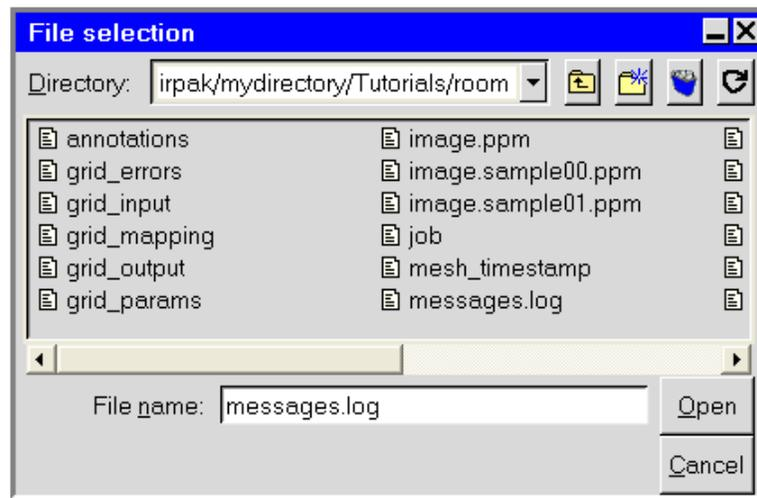
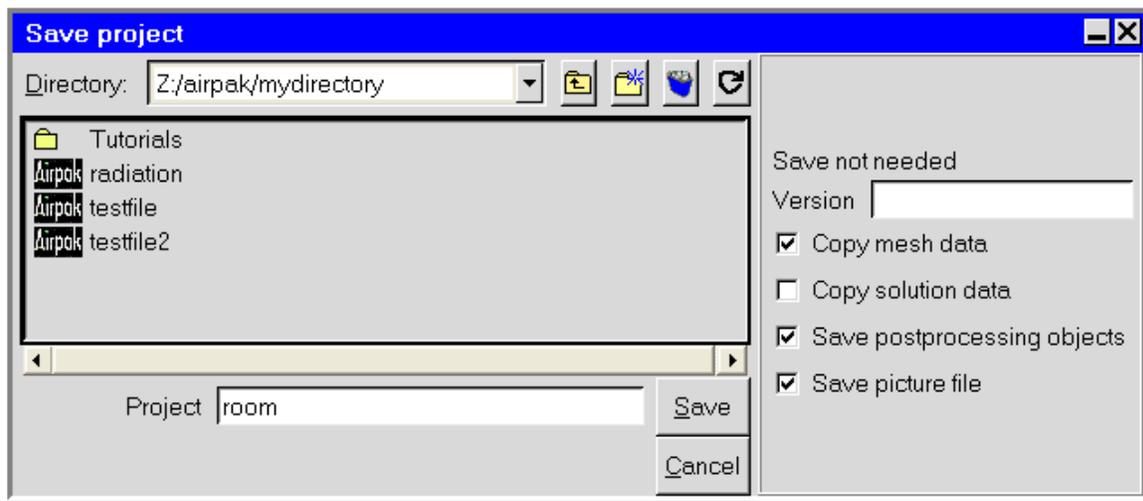
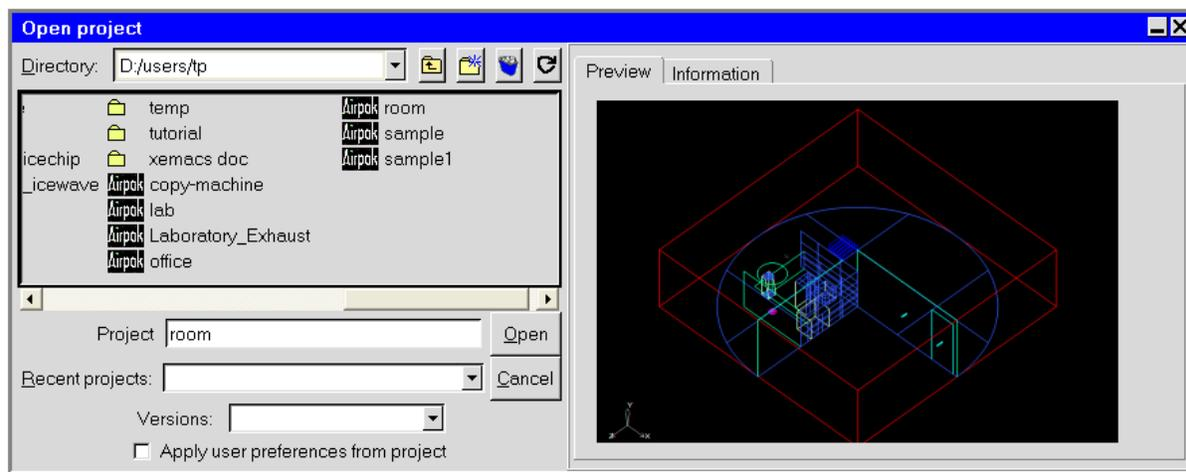
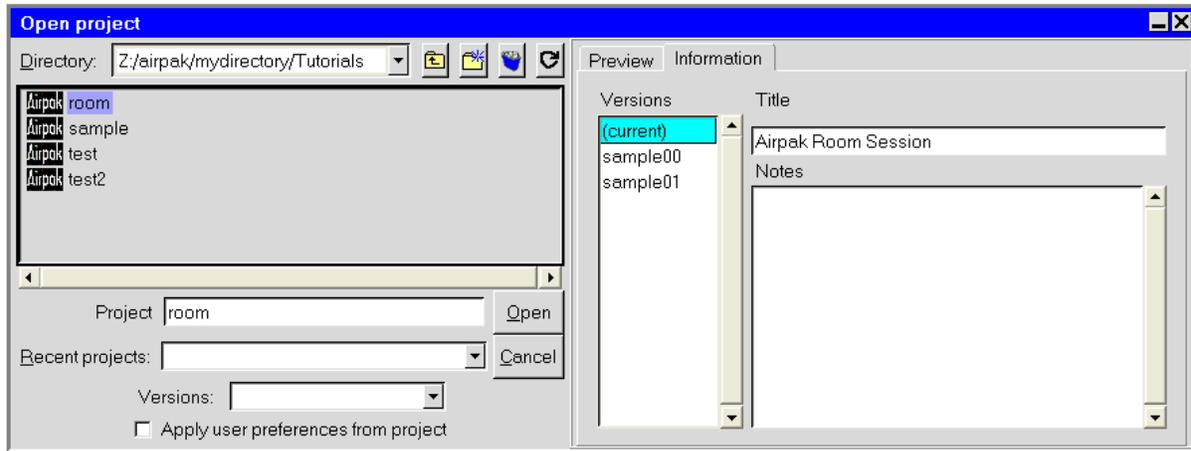

Figure 2.1.32: The File selection Dialog Box
Figure 2.1.33: The Save project Panel Showing the File Selection Dialog
Figure 2.1.34: The Open project Panel Showing the File Selection Dialog and the Preview Tab
Figure 2.1.35: The **Open project** Panel Showing the File Selection Dialog and the Information Tab
Note that the appearance of the file selection dialog box will not always be the same. The version shown in Figure 2.1.32 will appear in many cases. If you are saving a project, the version shown in Figure 2.1.33 will appear. If you are opening a project, merging two projects, or loading an external assembly, a version similar to that shown in Figures 2.1.34 and 2.1.35 will appear.
5. (project files only) Select the version of the job file in the **Versions** drop-down list (e.g., in the **Open project** panel shown in Figure 2.1.34). This list displays the available versions for the project file selected. The version listing is also available in the **Information** tab of some file selection dialogs. For example, if you run a project with a project ID of `job01`, Airpak will save a model file called `job01.model`. If, for example, you then change the material properties specified for a block in your model, and give this project an ID of `job02`, Airpak will save a model file called `job02.model`. These files are all saved in the same directory. When you select the directory in the **Directory** list, all the different versions of the project in that directory will be displayed in the **Versions** drop-down list.
7. (project files only) **Title**, **Versions**, and **Notes** fields will appear in the **Information** tab of some of the file selection dialogs (e.g., Figure 2.1.35). In addition, the **Preview** tab (e.g., Figure 2.1.34) may contain a picture of the model if a picture has been saved. These items are described below.
8. In some of the file selection dialogs there are other options that you can select, for example, on the right-hand side of the **Save project** panel (Figure 2.1.33). These options are described in the section related to the use of that particular panel, for example, the options in the **Save project** panel are described in Section 3.4.